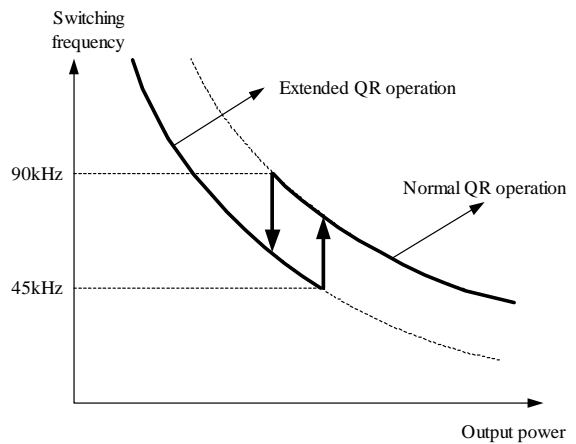
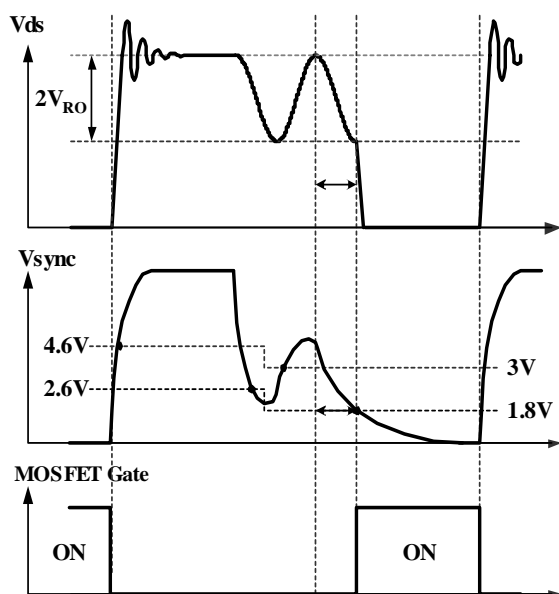
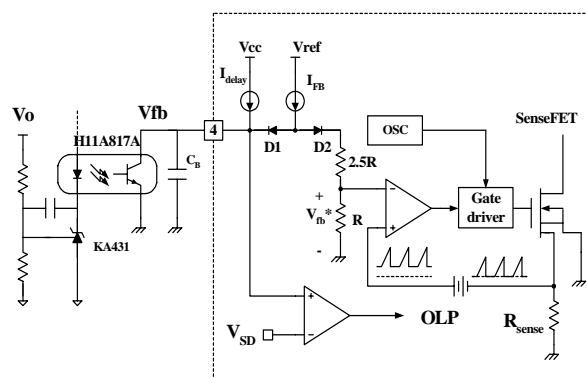

Figure 6. Extended quasi-resonant operation
Figure 7. Extended quasi-resonant operation waveforms
Figure 8. Pulse width modulation (PWM) circuit
**2. Synchronization :** FSCQ1565RP employs quasi-resonant switching technique to minimize the switching noise and loss. In this technique, a capacitor (Cr) is added between the MOSFET drain and source as shown in Figure 6. The basic waveforms of quasi-resonant converter are shown in Figure 7. The external capacitor lowers the rising slope of drain voltage to reduce the EMI caused when the MOSFET turns off. In order to minimize the MOSFET switching loss, the MOSFET should be turned on when the drain voltage reaches its minimum value as shown in Figure 7.
The minimum drain voltage is indirectly detected by monitoring the Vcc winding voltage as shown in Figure 6 and 8. The voltage divider  $R_{SY1}$  and  $R_{SY2}$  should be chosen so that the peak voltage of sync signal ( $V_{sypk}$ ) is lower than the OVP voltage (12V) in order to avoid triggering OVP in normal operation. It is typical to set  $V_{sypk}$  to be lower than OVP voltage by 3-4 V. In order to detect the optimum time to turn on MOSFET, the sync capacitor ( $C_{SY}$ ) should be determined so that  $T_R$  is the same with  $T_Q$  as shown in Figure 8. The  $T_R$  and  $T_Q$  are given as, respectively